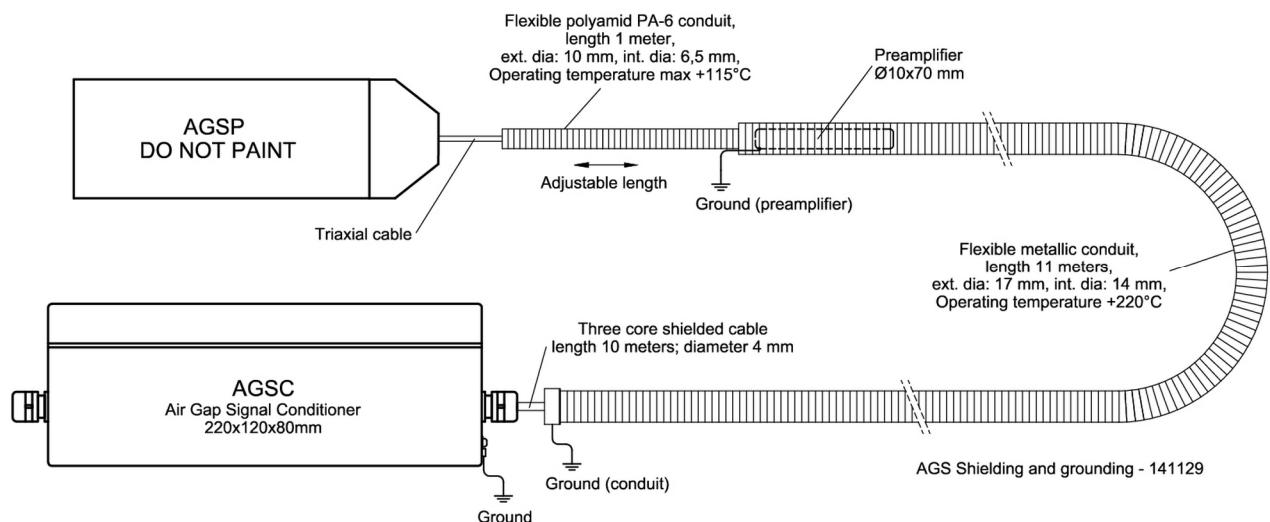

Figure 15b. Air Gap Sensor AGS Shielding and grounding
CAUTION: *Grounding is essential for system operation integrity as well as for protection against hazardous voltages. For best grounding, provide the shortest path possible between the AGSC signal conditioner unit and the grounded structure. Use flexible steel conduit to protect all cables from electromagnetic fields except inside of stator winding where PVC conduit shall be used. Keep ample distance from nearby power lines, (see Figure 15b).*
WARNING: *BEWARE OF HIGH VOLTAGES ON THE STATOR BARS (5...22 KV). DO NOT ATTACH TRIAXIAL CABLE DIRECTLY TO THE STATOR BARS. THE TRIAXIAL CABLE, PREAMPLIFIER AND MULTICORE SHIELDED CABLE MUST BE PROTECTED BY A FLEXIBLE OR SEMI-RIGID STEEL WITH POLYETHYLENE (PVC) CONDUIT, (SEE FIGURE 15B).*
Most important for generators with newer Switching power regulators in the Exciter circuit (a source of broadband electrical noise) (Figure 15b).
2. **Check grounding scheme. Ground loops shall be avoided** (Figure 15b).